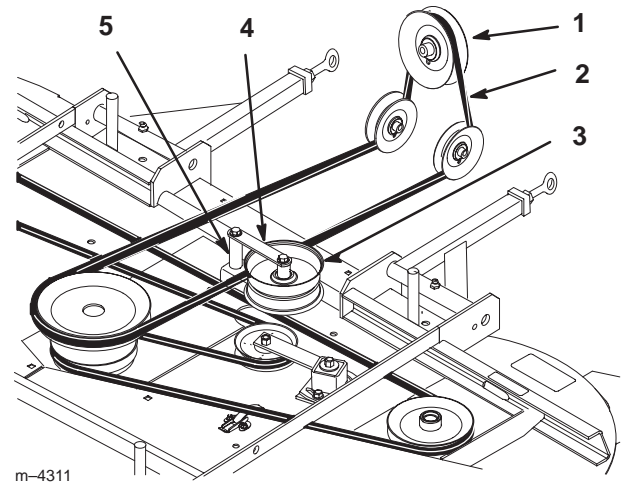

Figure 68
3. Remove PTO drive belt from clutch, around rear idler pulleys and off of mower top center pulley (Fig. 68).
4. Remove bolt, nut, washer and spacer from idler pulley bracket assembly. Remove belt from bracket assembly (Fig. 68).
6. Install belt into idler pulley bracket assembly. Install bolt, nut, washer and spacer into assembly (Fig. 68).